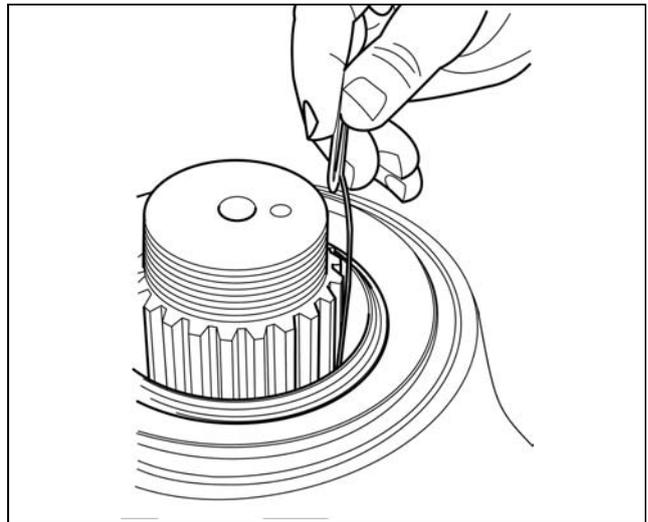

Fig. 4.26
6. Check seal spring has remained in position. (Fig. 4.26)